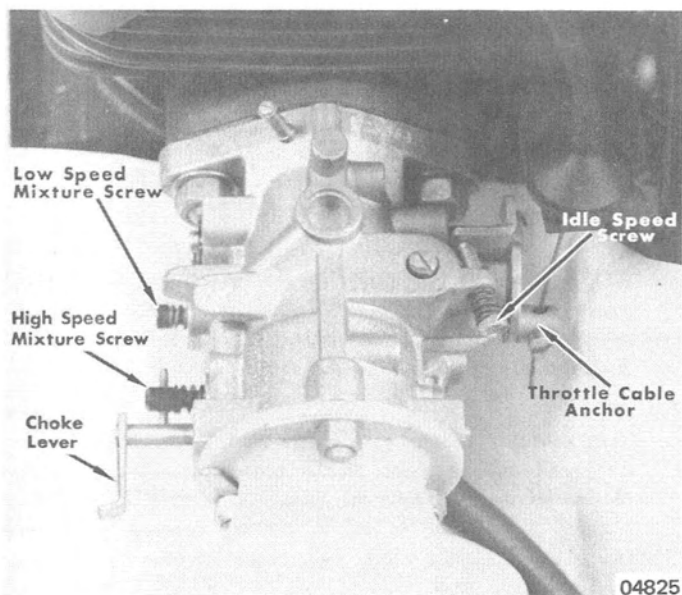

Figure 2. Carburetor - Models 200, Rocket, Lightning
8. Remove and inspect the points of both high speed and idle mixture screws. (Figure 2) Notice that idle mixture screw point has step design to minimize point and casting damage. Through misuse, either mixture screw point may be bent, extruded from being forced into the casting seat or possibly broken off in the casting. If either mixture screw is damaged, be sure to inspect condition of the casting. If adjustment seats are damaged, a new body casting is required.